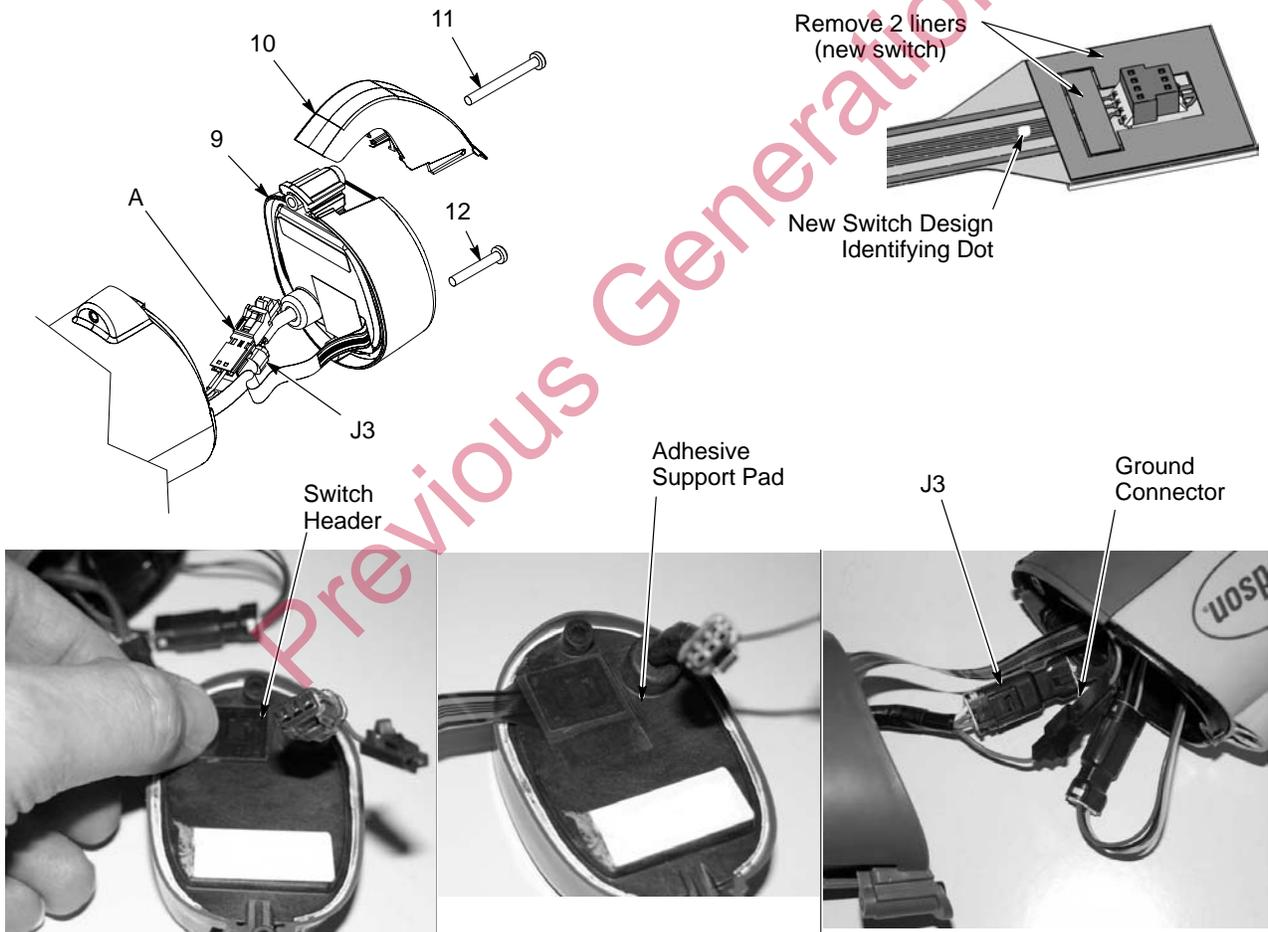

Figure 5-1 Display Module Replacement
1. See Figures 5-1, 5-3, and 5-4. Unscrew the top (M3 x 30) screw (11) holding the hook (10) and display module (9) onto the gun body.
2. Slide the hook off the display module (9).
3. Unscrew the bottom (M3 x 20) screw (12) (display module to gun).
5. Disconnect the display module ground connector (A). This ground cable has been added to provide a separate ground for the display module. It is connected to the barbed fitting in the handle base. Older units will not have it. Refer to *Parts* for the new display module kit.
1. On the display module (9), carefully clean the trigger switch header mounting surface and surrounding area with isopropyl alcohol. Allow the surface to dry completely before proceeding.
2. If you are installing a new trigger switch, remove the two liners from the connector side of the trigger switch header as shown in Figure 5-1.
1. See Figure 5-1. Remove the display module as described in *Display Module Replacement*.